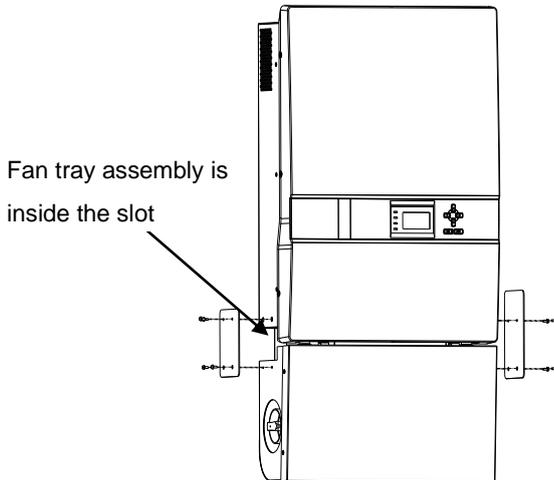

Figure 6-1 Removal of panels on both sides
- (1) Screw off the bolts and remove the two panels on both sides of the inverter as shown in Figure 6-1; (Tool: PH2 cross screwdriver)